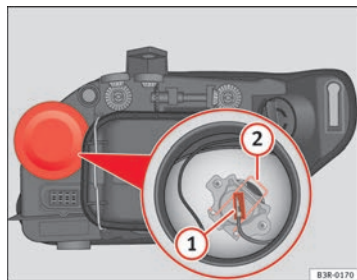

Fig. 209 Main beam headlights
- Remove the connector ⇒ fig. 209 **1** from the bulb.
- Press the spring ⇒ fig. 209 **2** inwards and to the right.